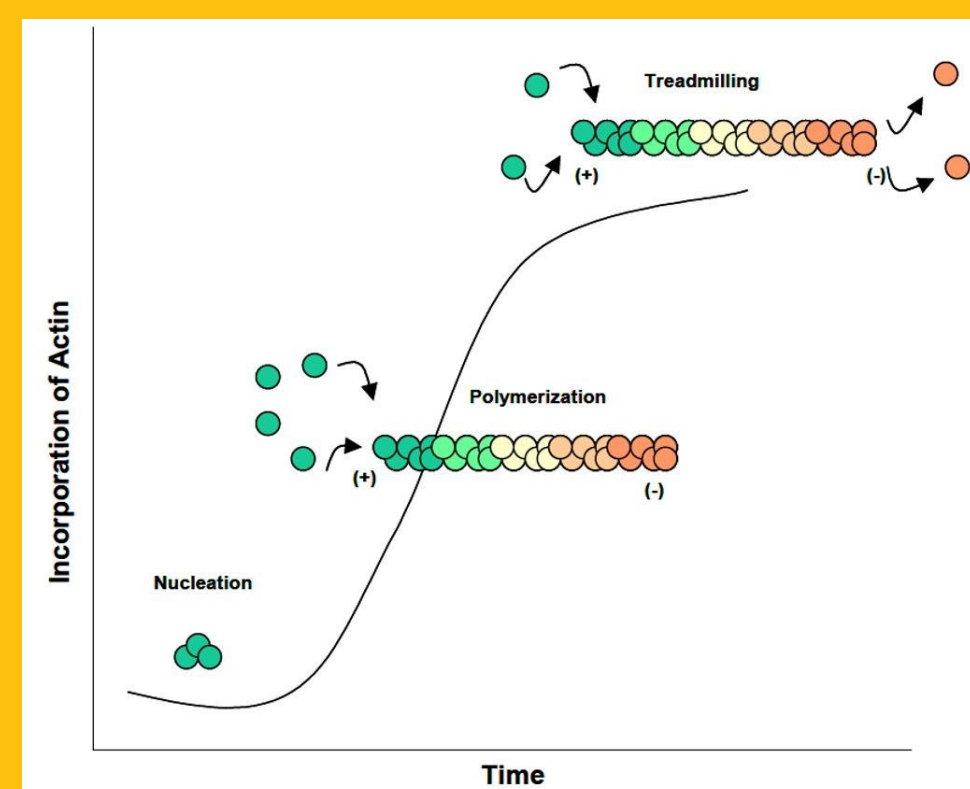

Figure 3: Shows the three stages of actin polymerization over time.
- Figure 3: Maisa Garcia Arguinzonie, Wurzberg Univ. Diss. 2003